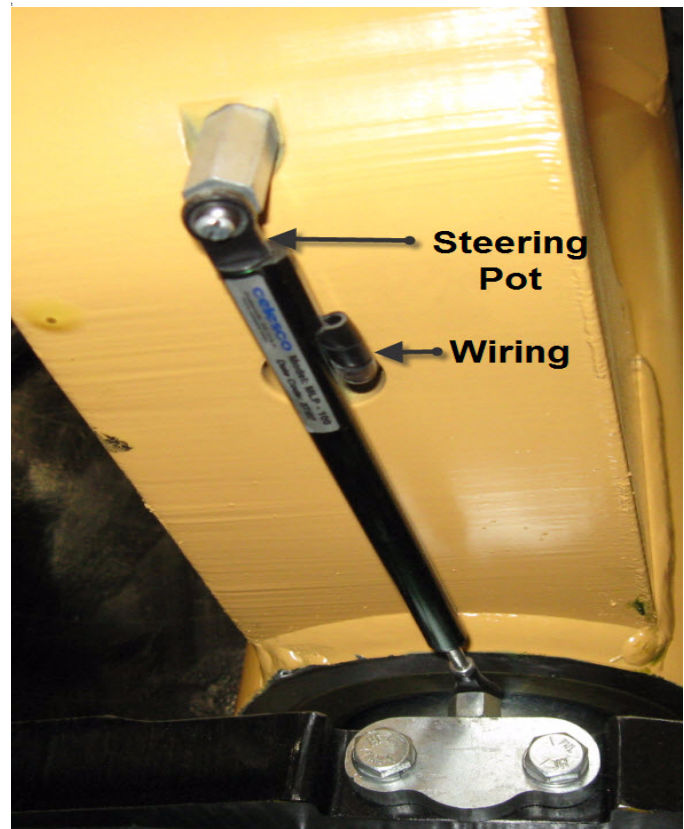

Figure 4-8 Steering Potentiometer
4. Unhook the wiring connector from the harness. (See Figure 4-8)